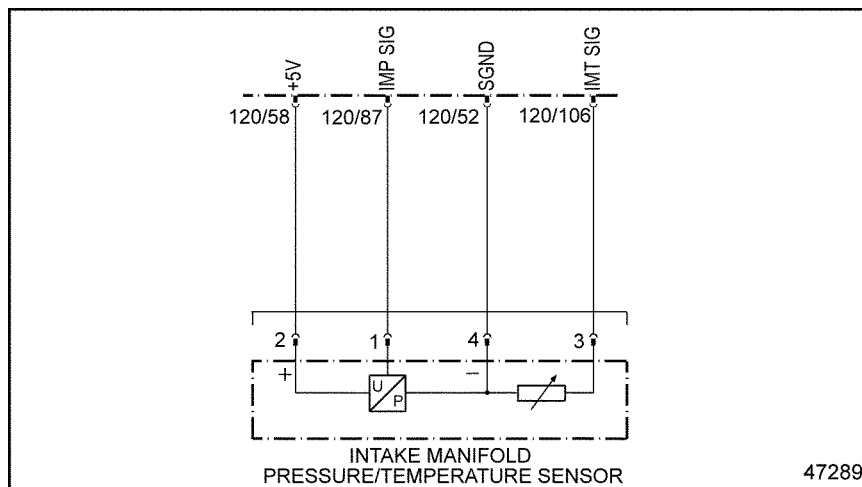

Figure 40-2 Intake Manifold Pressure/Temp Sensor Wiring
- [b] If the voltage is less than 2.75 volts, repair the open between pin 3 of the Intake Manifold Pressure/Temp Sensor and pin 106 of the 120-pin MCM connector. See Figure 40-2. Refer to section 40.3.1.1.